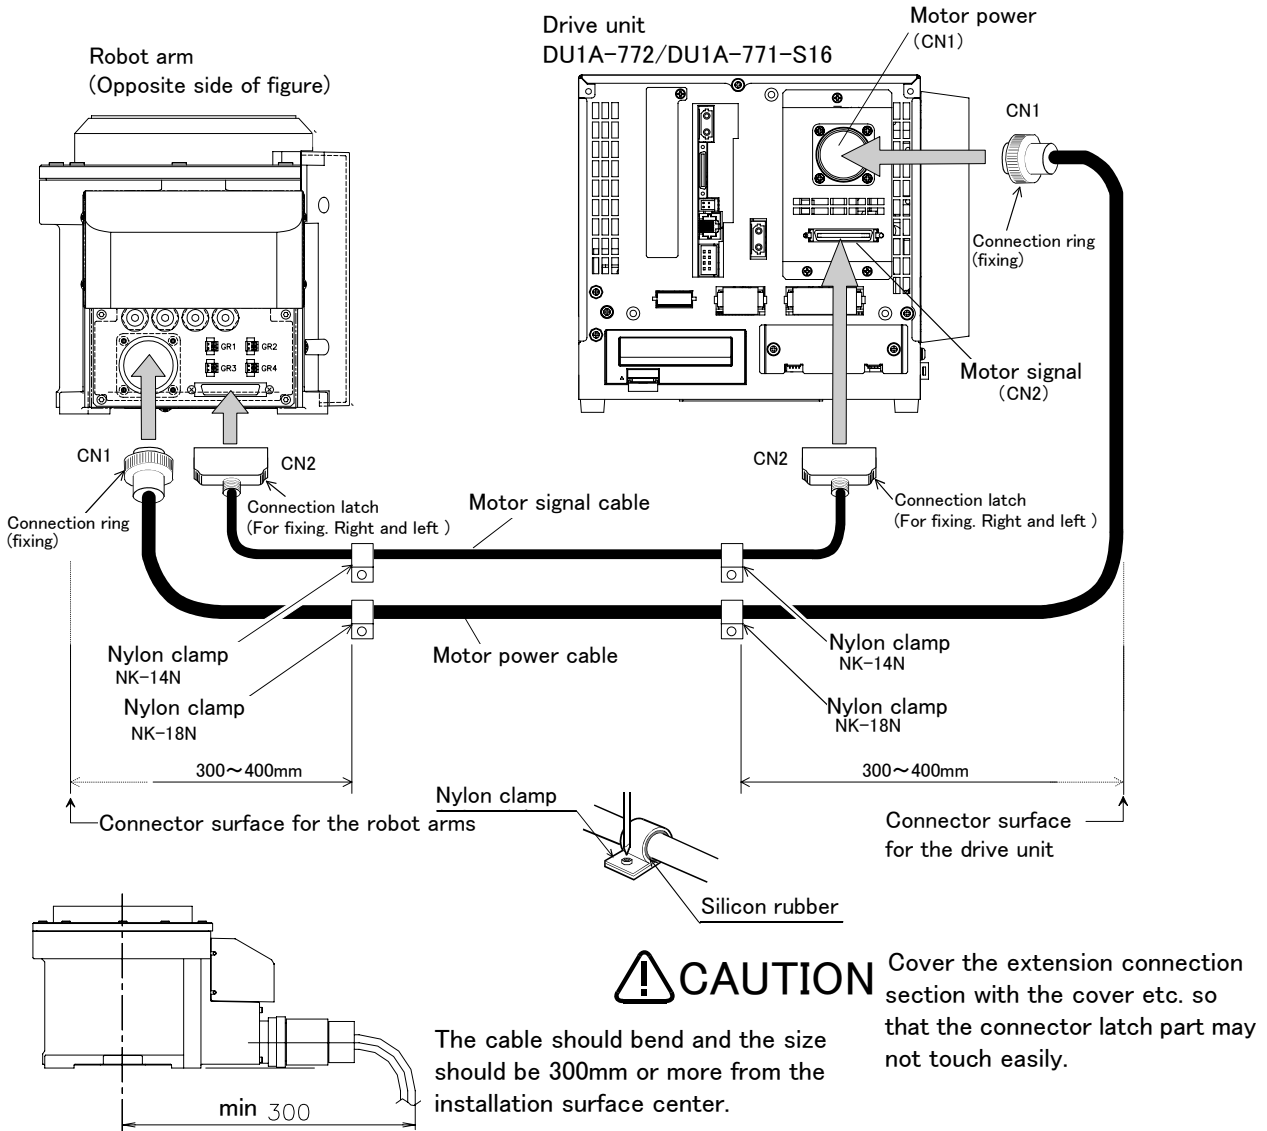
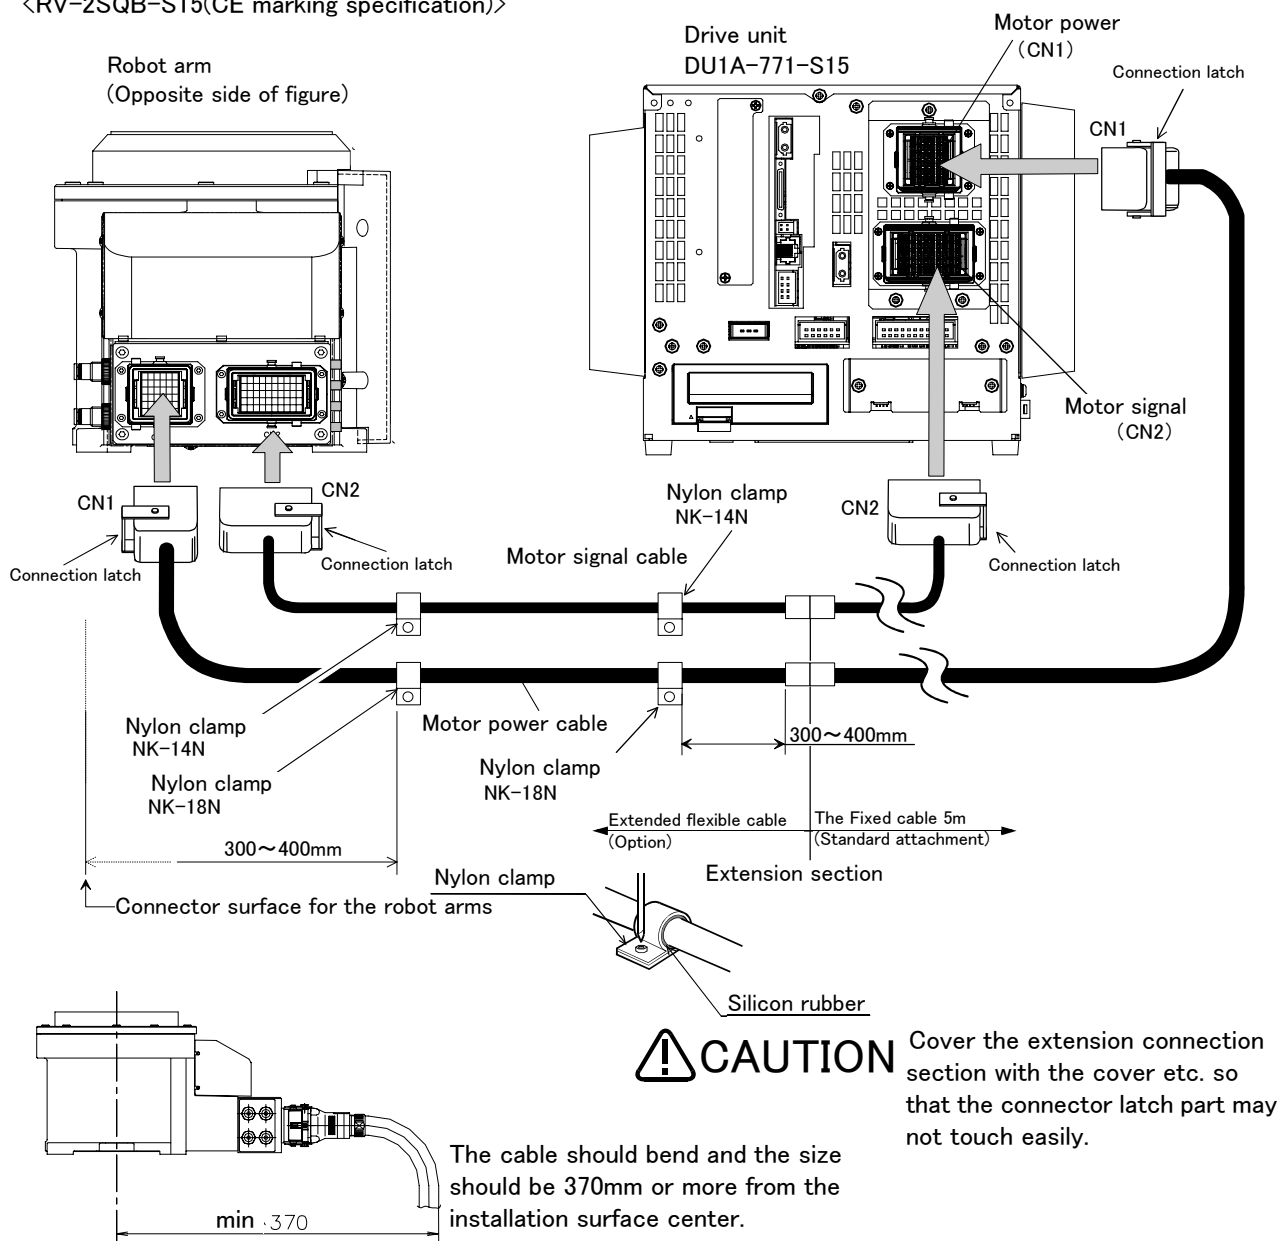

Fig.2-11 : Fixing the flexible cable (standard specification/CE marking S16 specification)
Fig.2-12 : Fixing the flexible cable (CE marking S15 specification)
- (1) Connect the connector to the robot arm .
- (2) Wind the silicon rubber around the cable at a position 300 to 400 mm from the side of robot arm and extension section as shown in Fig. 2-11 or Fig. 2-12, and fix with the nylon clamp to protect the cable from external stress.